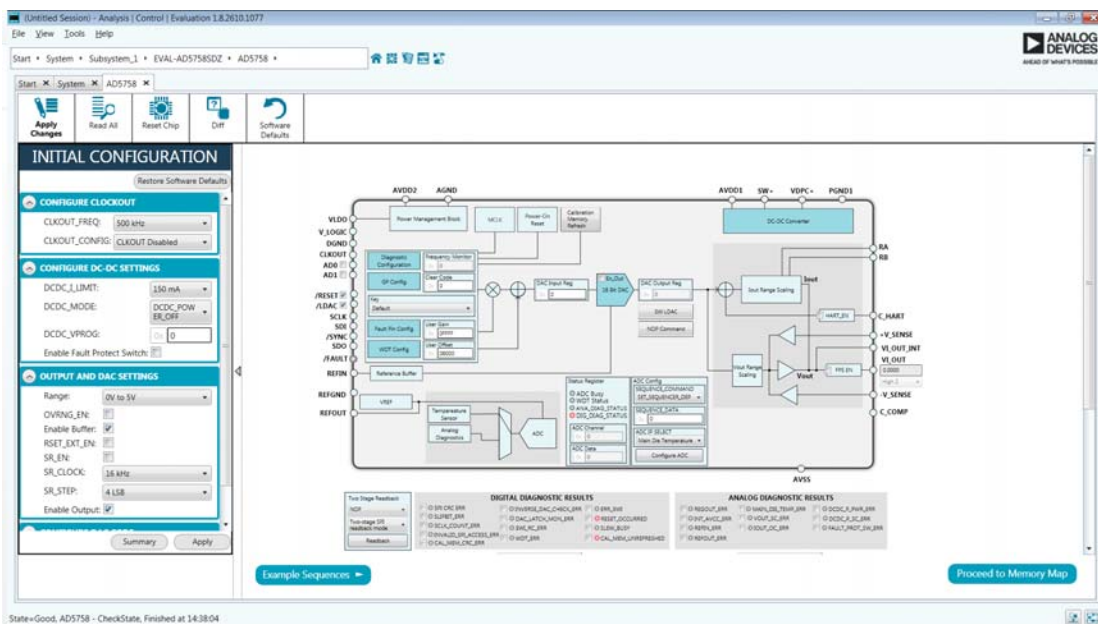

Figure 7. AD5758 Block Diagram in the ACE Software
7. Double-click EVAL-AD5758SDZ to open the **AD5758** block diagram (see Figure 7). The INITIAL CONFIGURATION menu appears on the left. This location is where several register settings can be configured and are written to the device in the appropriate order. The DIG_DIAG_STATUS, RESET_OCCURED, and CAL_MEM_UNREFRESHEDLED indicators are highlighted red by default. Writing the initial configuration values clears these error flags. If the device is power cycled, or if the USB cable is disconnected and reconnected while the **ACE** software is open, contact with the EVAL-AD5758SDZ may be lost. If contact is lost, click the **System** tab. Then, click the USB symbol on the EVAL-AD5758SDZ, and then click **Acquire** to communicate with the EVAL-AD5758SDZ again.